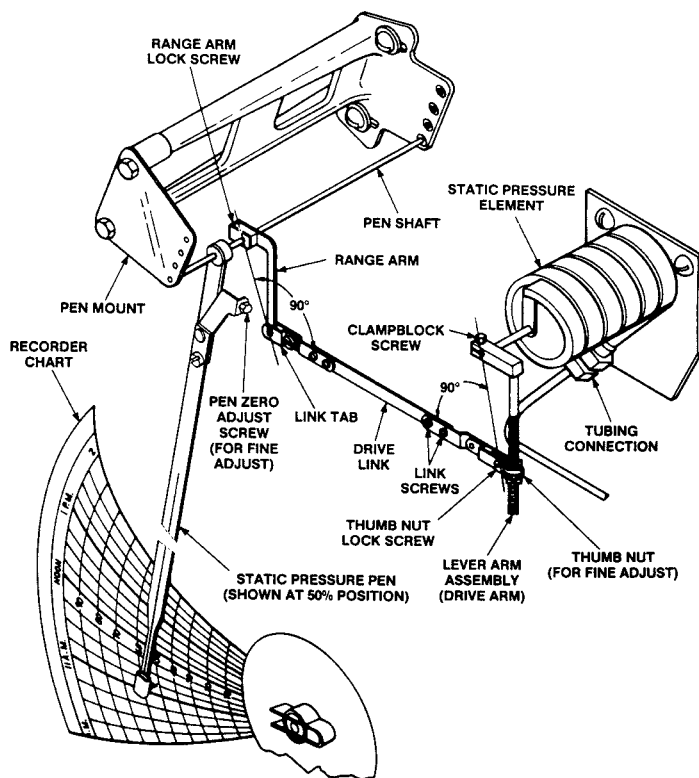

Figure 4.1—Static pressure pen calibration
4. Disconnect the tubing from the static pressure element at the tubing connection (refer to Figure 4.1—Static pressure pen calibration on page 15).